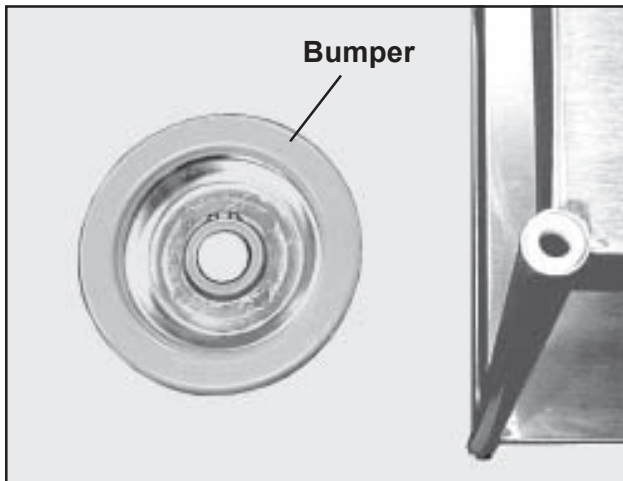

Figure 4. Bumper Removed From Cart
2. Lift the bumper off the cart (Figure 4).